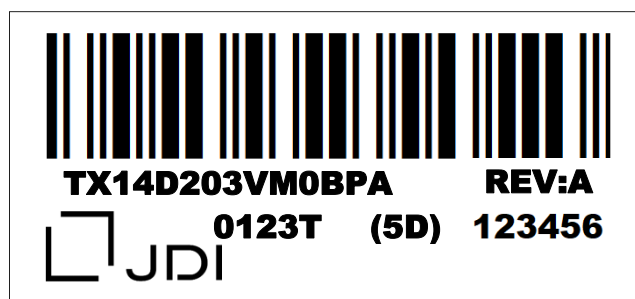

Fig. 14.2
- 3) The location of the lot mark is on the back of the display shown in Fig. 14.2